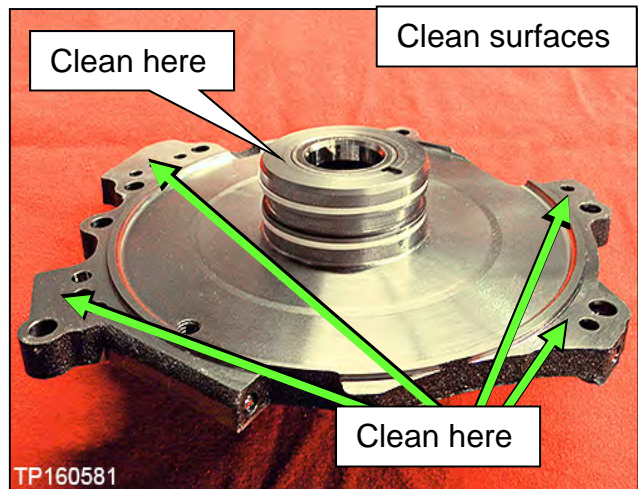

Figure 118
a. Clean the dummy cover surfaces that contact the CVT case and thrust bearing (Figure 118).